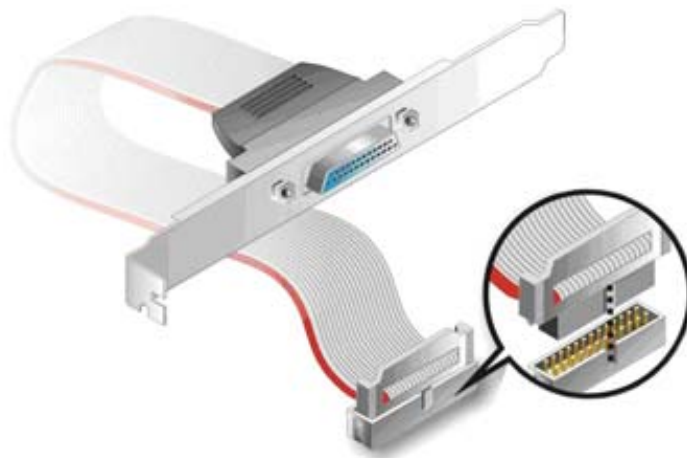

Figure 5-11: LPT Cable Connection
Step 2: Align the connectors. Correctly align pin 1 on the cable connector with pin 1 on the PCIE-9452 LPT box-header connector. See **Figure 5-11**.
Step 3: Insert the cable connectors Once the cable connector is properly aligned with the 26-pin box-header connector on the PCIE-9452, connect the cable connector to the onboard connector. See **Figure 5-11**.